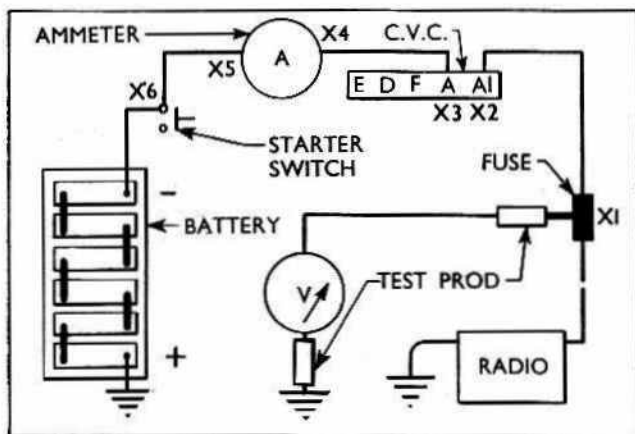

Fig. 594
- 1 Connect a suitable voltmeter in series with two test prods as shown in Fig. 594.
- 5 Compare the reading obtained with the battery voltage. No reading on the voltmeter indicates a break in the supply circuit, while a drop in voltage indicates a poor connection resulting in a high resistance. Check back, stage by stage, at the points marked with an X in Fig. 594.